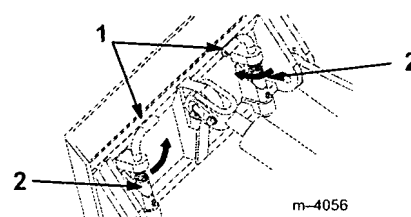

Figure 19
8. Engage the quick attach pins (Fig. 19).
9. Ensure that the cam collars are seated on top of the cast pin brackets (Fig. 19).